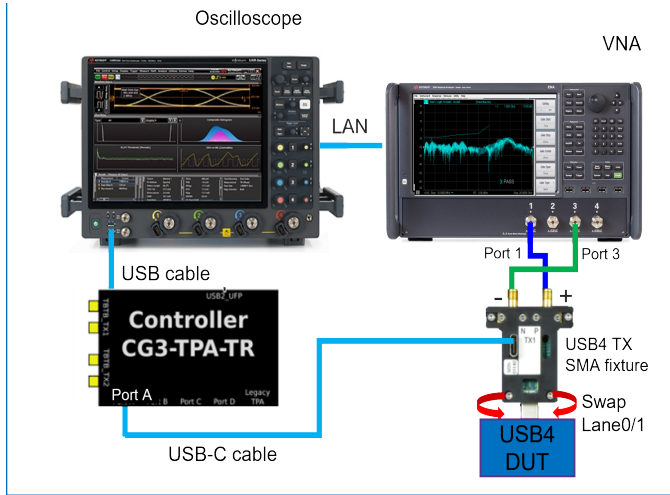

Figure 120 Tx Return loss test setup with Tx SMA test fixture
- 1 For the physical connections between the DUT & the Oscilloscope, see the connection diagrams in Figure 120 and Figure 121.